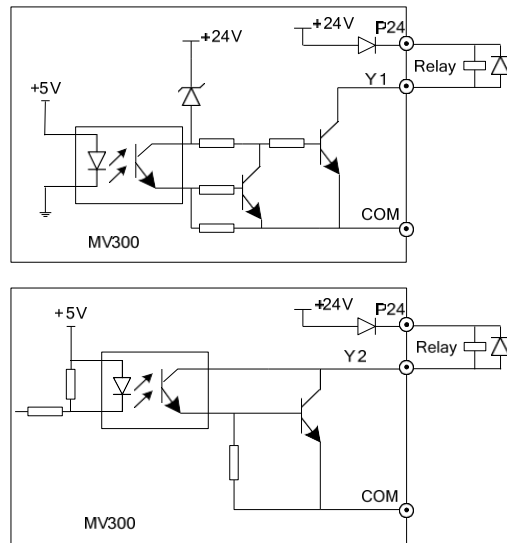

Fig. 3-17 Wiring mode 1 of Multi-functional output terminal
1. When the Multi-functional output terminals Y1 and Y2 use the internal 24V power supply of the drive, the wiring mode is as shown in Fig.3-17.